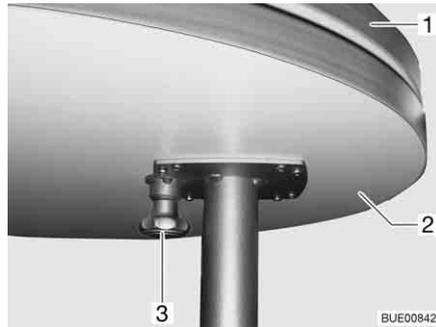

Fig. 85 Fixed table
- Pull the knob (Fig. 85,3) of the lock down and swing out the table-top extension (Fig. 85,2).
- Swing the table-top extension (Fig. 85,2) under the table-top (Fig. 85,1) until the lock latches in place audibly.